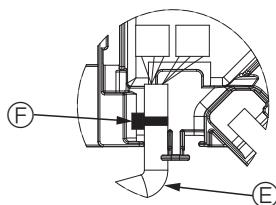

Fig. 6-11
- \* Place the band securing the panel vane motor wire in the connector box as shown in the diagram. (Fig. 6-11)